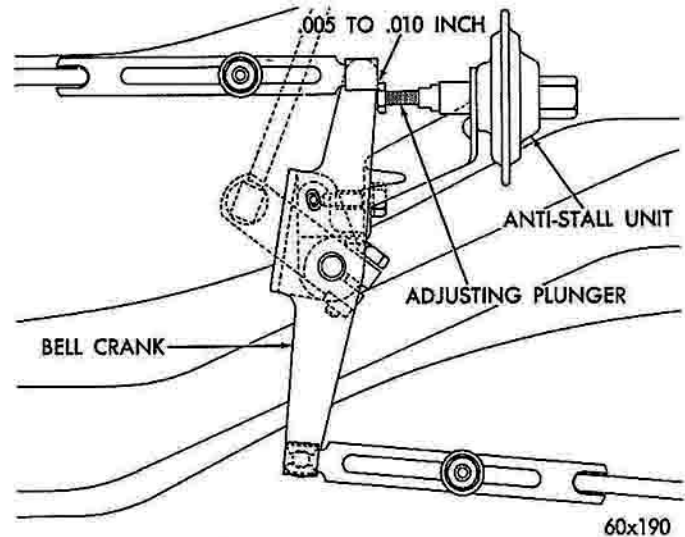

Fig. 16 Anti-Stall Adjustment
(1) To readjust the anti-stall device, it is necessary that the engine be at normal operating temperature and that the curb idle speed be 725 to 750 rpm and constant with the transmission in neutral (N) and the air conditioning compressor "ON" (if so equipped). (See next Paragraph "Adjusting the Ram Manifold AFB 2903S Series Carburetors" to obtain this idle speed).
(2) With the transmission in Drive (D) and with the parking brake and the foot brakes applied, turn the anti-stall plunger toward the bellcrank until clearance of .010" has been obtained. (Refer to Figure 16).
- (1) Remove the choke housing baffle plate.
- (2) Remove the throttle return spring, so that the throttle can be set at one quarter open.
- (3) Be sure the choke valve is wide open.
- (4) Slide a .026 inch wire into the choke piston slot, so that the hook on the end enters the slot in the cylinder, as shown in Figure 16. (This gauge can be made by bending the .026 inch end of wire gauge Tool T-109-189 to form the shape, as shown in Figure 16.
- (5) Push on the choke valve, counterclockwise, trapping the wire gauge between the piston and the cylinder slot (choke linkage hanging free).
- (6) It should now be possible to insert a No. 32 drill between the choke valve and wall of the air horn. If an adjustment is necessary, bend the link that connects the choke shaft to the choke piston lever (at angle) until the correct clearance has been obtained.
- (7) Place the choke baffle plate in position and install retaining screws. Tighten securely.
- (8) Connect the throttle return spring.